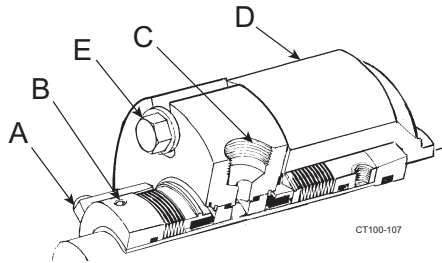

Figure 58 - Typical Cartridge Seal
NOTE: Be sure the flushing ports in the cartridge seal are positioned with the inlet toward the bottom and the outlet toward the top (Figure 58, item C).
14. Hold the backplate in place and tighten the cartridge seal into the cartridge adapter by tightening the cap screws (Figure 58, item E).
16. Tighten the two setscrews to the shaft (Figure 58, item B).
17. Remove the lugs/spacers (Figure 58, item A).